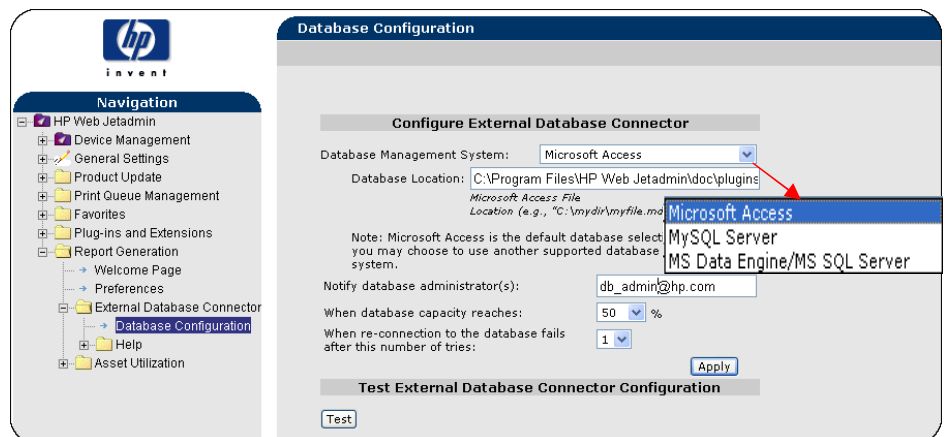

Figure 6. Database Configuration
2. Under External Database Connector, select Database Configuration. This will display the Database Configuration page (see Figure 6).